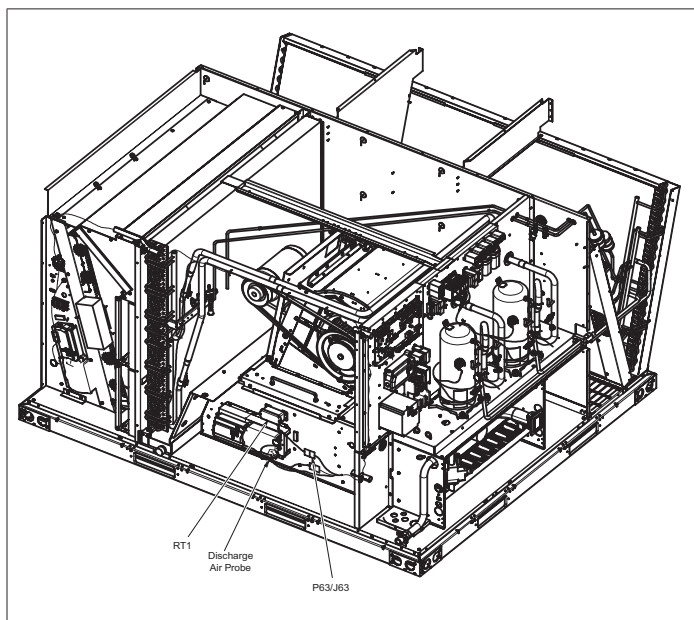

Figure 8. Routing J63 RT1 Harness (120,240 Units)
- SCC/SGC 120/240 units: see "Figure 8. Routing J63 RT1 Harness (120,240 Units)" on page 3.